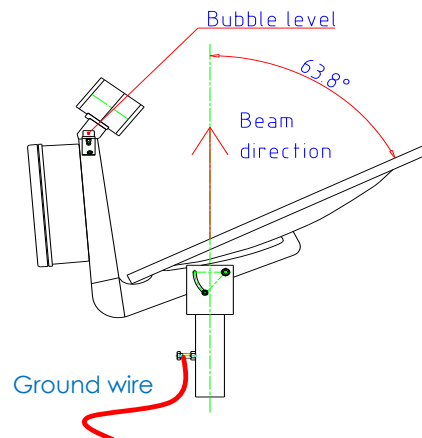

Figure 8: Vertical alignment of the radar beam
3. Check the vertical alignment of the antenna with the built in bubble level (Figure 8).
4. Attach a ground wire to the fixing bolt for lightning protection after mounting of the antenna (Figure 8).